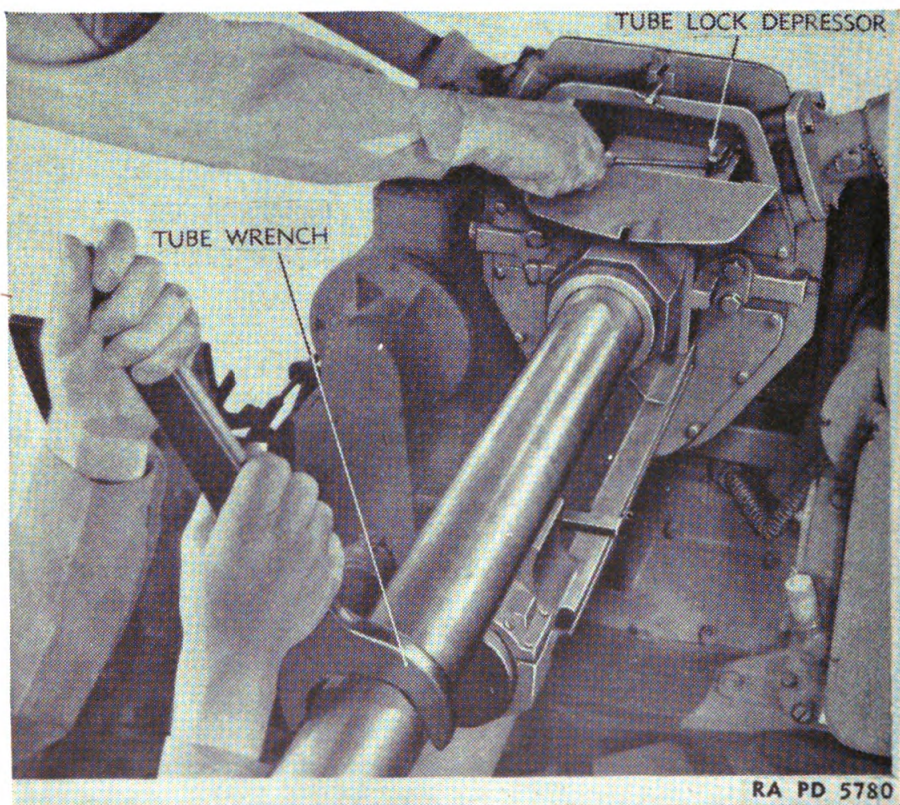

FIGURE 52.—Loosening gun tube.
(5) Depress the tube lock depressor and turn the gun tube by means of the tube wrench (fig. 52). When the tube has been turned one-fourth of a revolution the tube lock depressor can be released and the tube should be unscrewed by hand. Withdraw the tube from the gun. The trunnion block bushing will come out with the gun tube. If the